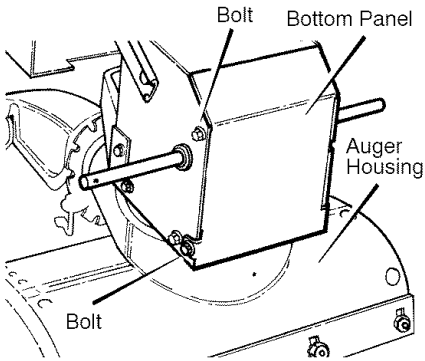

Figure 26
3. Loosen the **bolts** on each side of the **bottom panel** (see Figure 26).